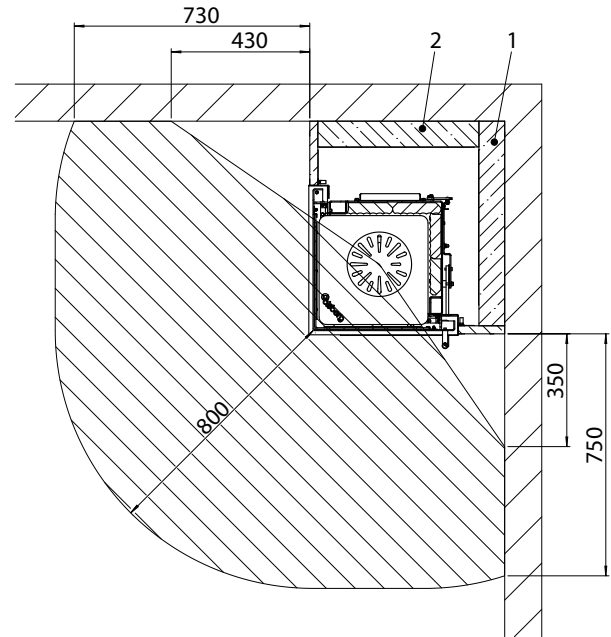
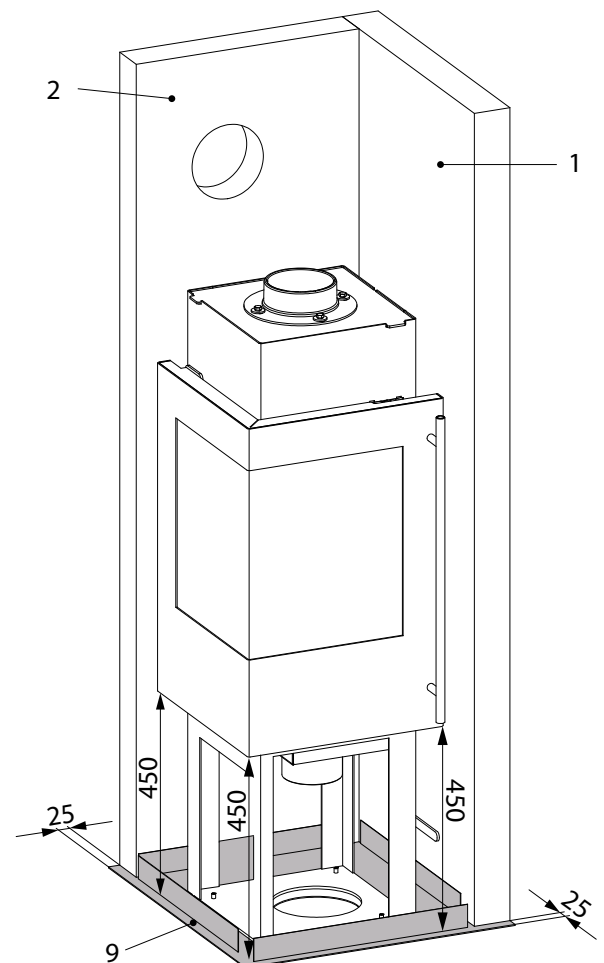

Fig.3
Fig.4
- Determine the installation location. The stove can be installed flush with the wall on 2 sides. There must be no objects made of combustible materials within a distance of 80 cm of the stove's radiation area, measured from the combustion chamber's inspection glass, nor may any be placed within this area subsequently see Fig.3).
- Position the bottom plate (9, Fig.4) at the installation location in such a way that the two 80mm thick insulation panels 1+2 face the mounting walls (see Fig.3).
- Align the stove such that the distance between the bottom plate and the bottom edge of the combustion chamber door is 450mm all around (see Fig.4).